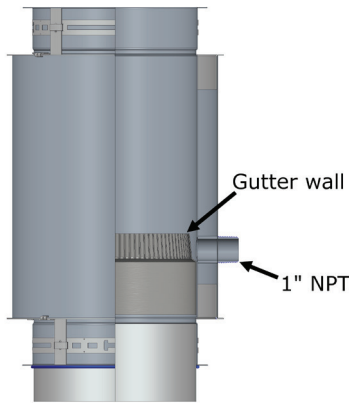

Figure 29- Vertical Drain Length
A Drain Section is used to drain water on vertical installation. It is a special variation of an 18" pipe length with provision to drain rain or condensate from the chimney. The pipe flue is equipped with an annular gutter wall and a 1" (25) NPT nipple extending through the casing for attachment of drain piping. See Figure 29 for details. The drain piping should include a water leg of a height at least equal to the maximum expected operating pressure at the appliance outlet to avoid allowing flue gases to vent through the drain. Drain Length should be installed indoors to prevent freezing.